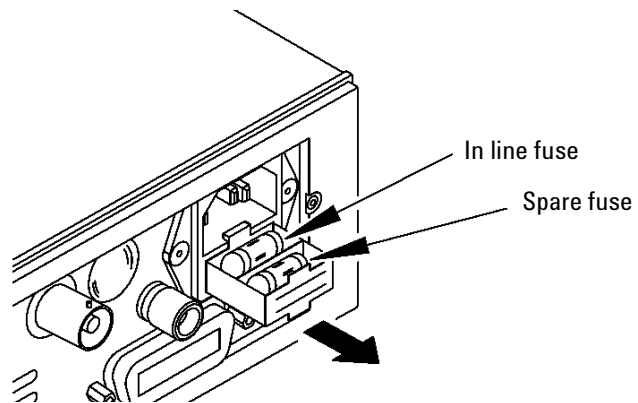

Figure 2-23 Replacing the fuse
- 2 Slide the fuse holder assembly from the rear panel as shown in Figure 2-23.
- 3 Install the correct fuse in the “In line” position as shown in Figure 2-23. (A spare fuse can be stored in the fuse holder assembly.)